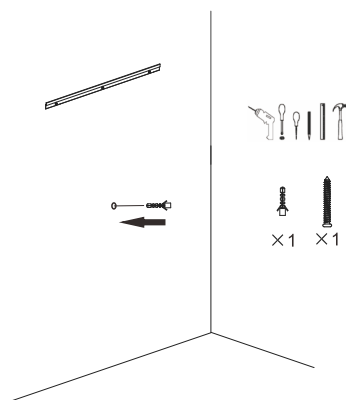

Fig. 5
- 2.2 Remove the mirror cabinet, drill the fixing hole in the wall in the marked position, and place the expansion plug (B)(Fig. 5).